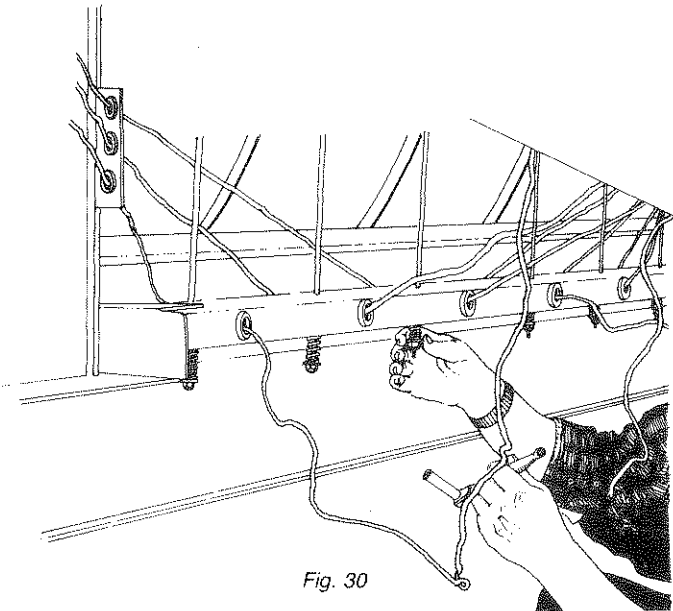
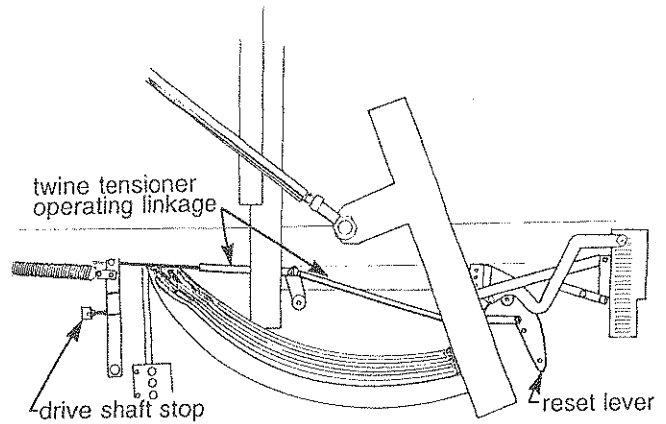

Fig. 30
Fig. 31
2. Adjust the twine tensioner at (A), see Fig. 30. Place twine through the tensioners during adjustment, the twine itself serves as a gauge. The correct adjustment is when twine can be PUSHED through the tensioners while having a minimum amount of clearance between the tensioners. If tensioners are worn $\frac{1}{32}$ inch or more, replace them.
4. Adjust the twine tensioner drive shaft stop, see Fig. 31, until the springs (A), Fig. 30, are compressed $\frac{1}{2}$ inch from relaxed length. The relaxed length is when twine can be pushed through the twine tensioner.